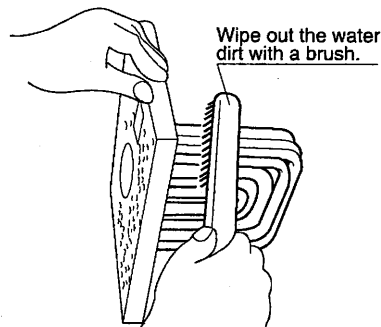

Fig. 35
- (1) Check if water dirt is stuck on the water jacket surfaces.
- (2) When water dirt is stuck, clean the portion shown in Fig. 35 with the brush.